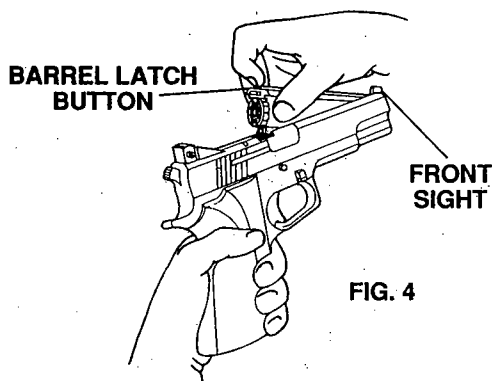

FIG. 4
- Open the barrel by pushing the barrel latch button toward the front sight until the barrel pops open. (Fig. 4)